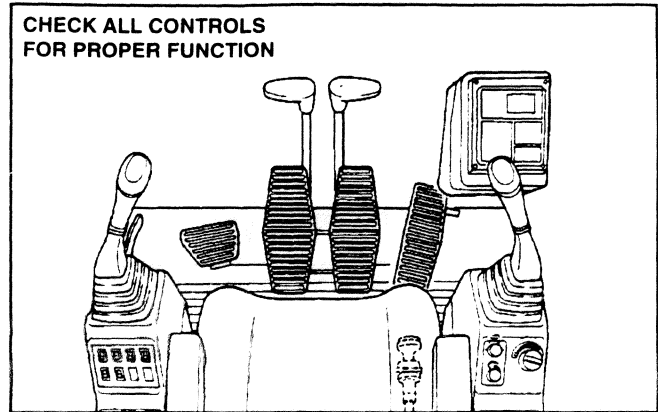

FIGURE 4.35
1. Check all Hydraulic Controls for proper functionality before operating the machine. See Figure 4.35.